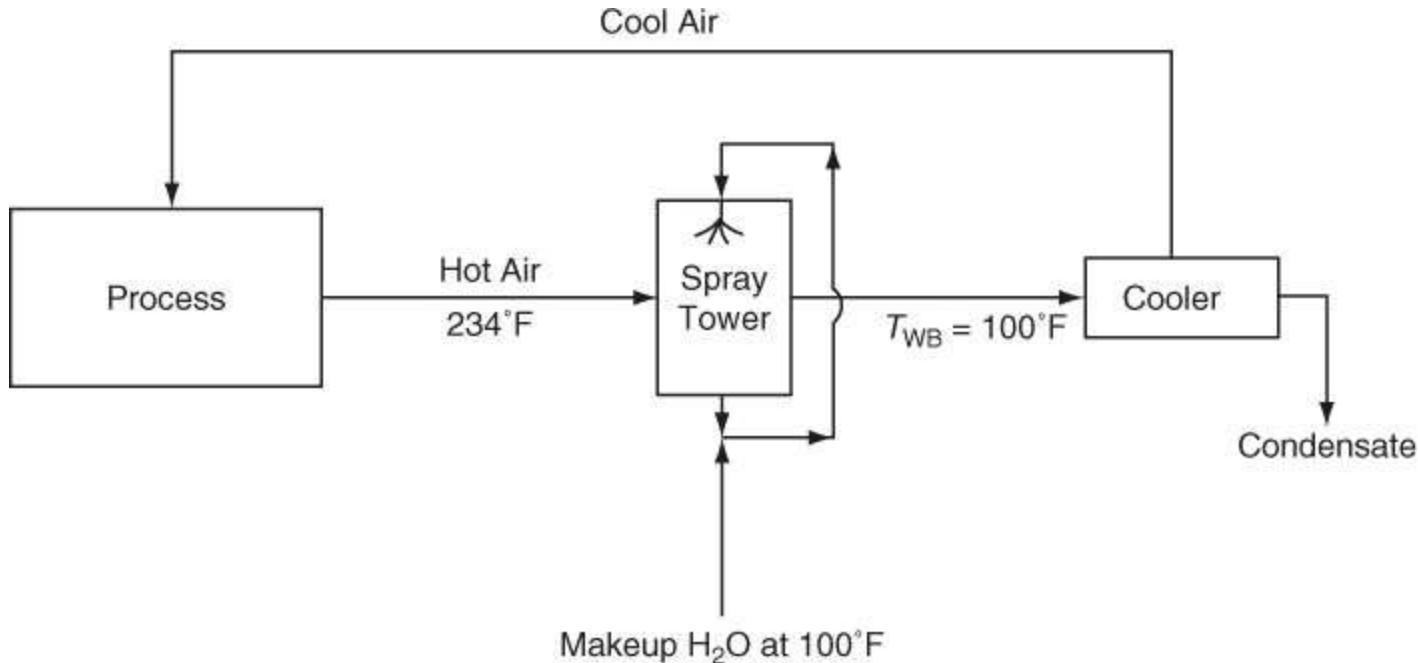

Figure P11.3.9
****11.3.9. Air is used for cooling purposes in a plant process. The scheme shown in Figure P11.3.9 has been proposed as a way to cool the air and continuously reuse it. In the process, the air is heated and its water content remains constant. It is estimated that the air leaving the process will be at 234°F regardless of the entering temperature or the throughput rate. The air must remove 425,000 Btu/hr from the process. Water for the spray tower is available at 100°F. This tower operates adiabatically with the air leaving saturated. Determine the following: (a) the wet-bulb temperature and percent relative humidity of the air leaving the process; (b) the temperature and dew point of the air leaving the cooler; (c) the psychrometric chart for this cycle; (d) the air circulation rate needed in pounds bone-dry air (BDA) per hour.